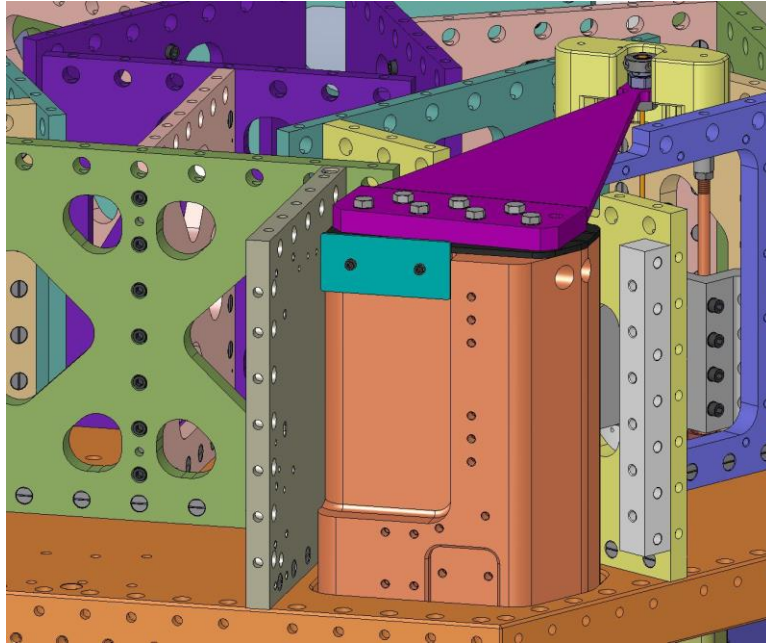

Figure 4.107. Particle Fences are added to prevent debris from Optical Table surface migrating down to Horizontal Actuators.
- *Before moving onto next step, all (3) **Springs** should be loaded and all (3) **Flexure Lower Plates** should be bolted in.*
- Bolt (3) **Particle Fences** (D071009) to the **Support Posts**, as shown in Figure 4.107. Torque screws to final spec.